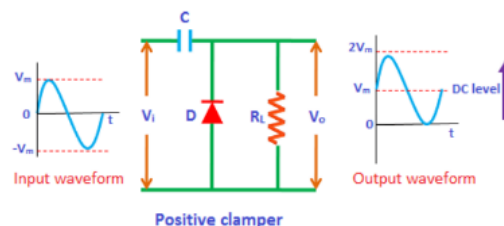

Figure 1, Clamper Circuit
- Construct the circuit in Fig.1. The input signal is a 10 V p-p square wave at frequency of 1000 Hz. Record the measured resistance value.